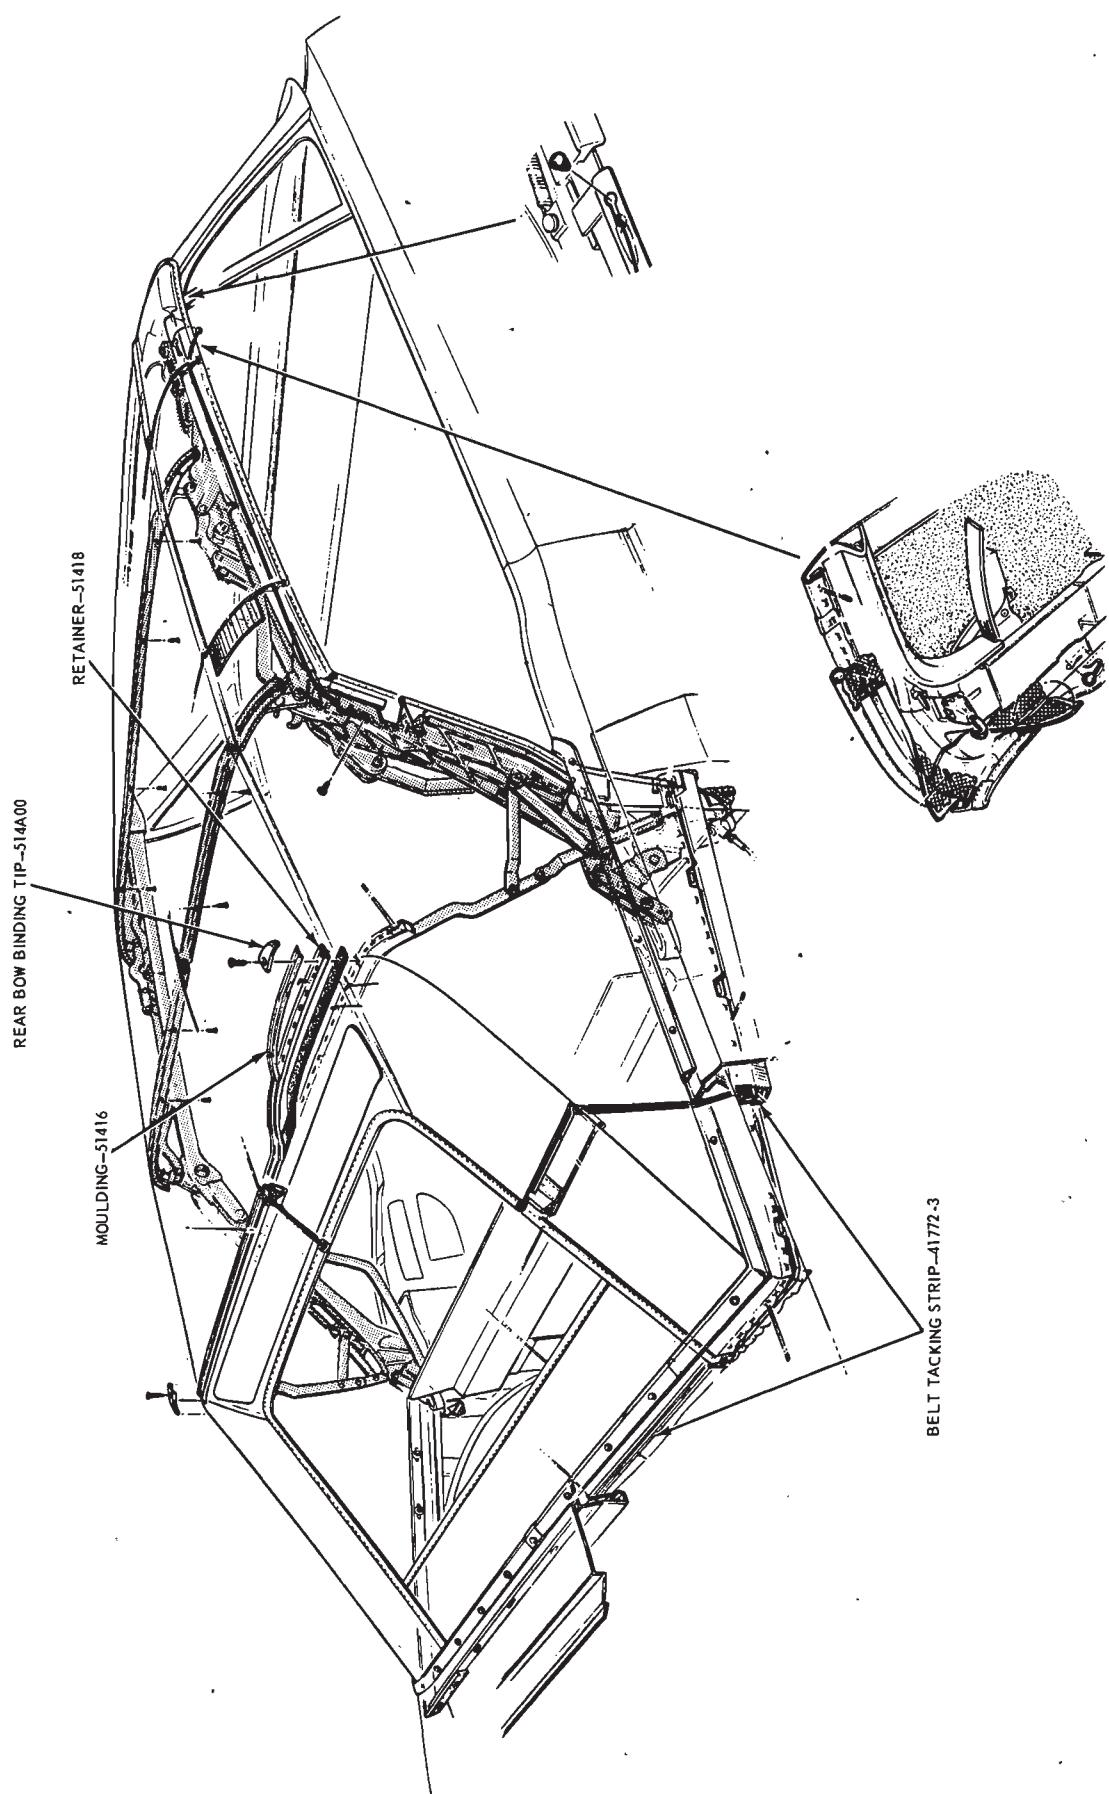

FIG. 12—Convertible Top Trim Installation—Fairlane
4. Remove the No. 1 bow weather-strip retainer (Fig. 12) and the weatherstrip. Remove the windshield header seal.
9. Remove the tip (Fig. 12) from each end of the moulding on the rear bow. Carefully pull the moulding out of the retainer. Pry the moulding retainer off the bow.